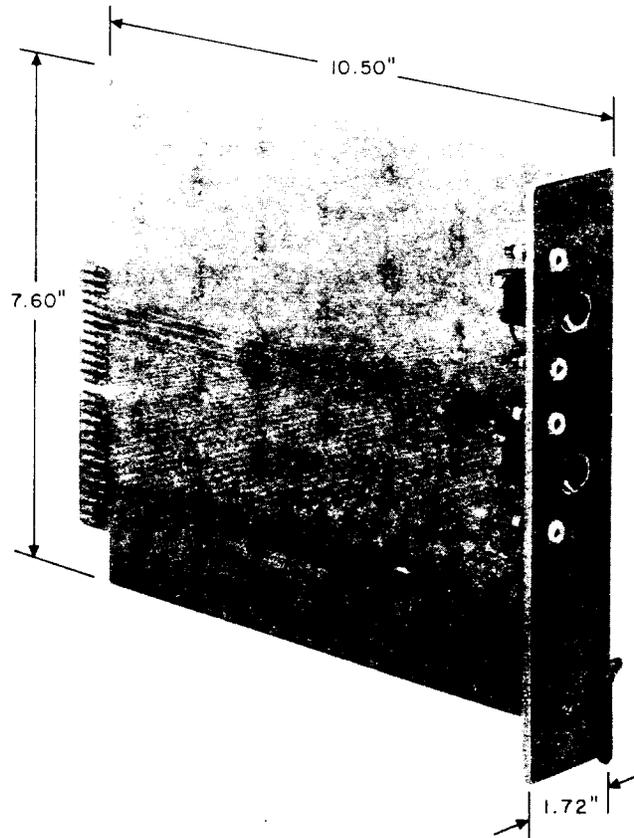

Fig. 3—789A Tester Tool
**2.08 789A:** The 789A tool (Fig. 3) is arranged for insertion into a 940A connector. This extender provides access to the 4-wire T, R, T1 and R1 leads, and also brings out ground (BAT, RTN) and resistance battery (-48V or -24V) when inserted for testing purposes.